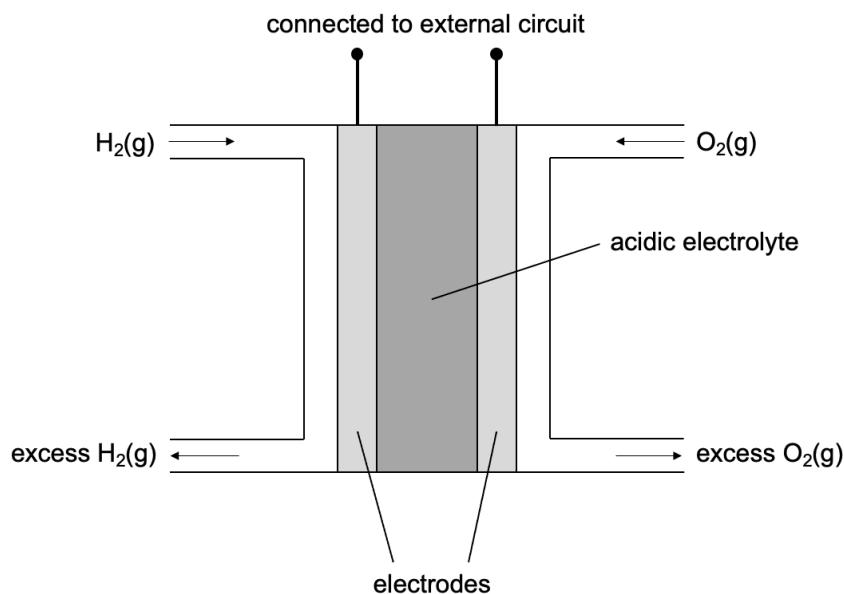

Fig 1.1
- (a) **Fig 1.1** illustrates a simplified setup of an electrochemical cell to produce H_2O_2 using the 2e-ORR.
- (i) On **Fig 1.1**, indicate the cathode and anode, and their polarities; and direction of electron flow on the wires connected to both electrodes. [3]